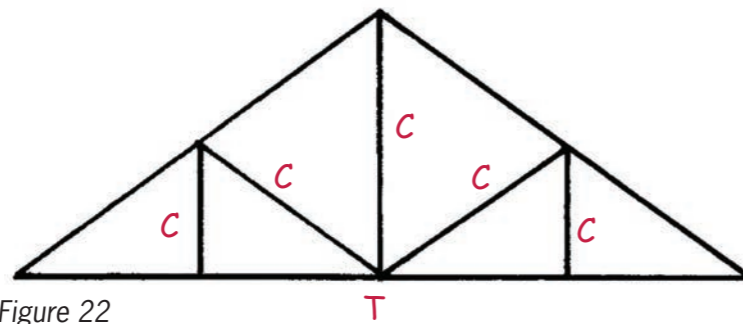

Figure 22
4. Make a copy of the diagram in Figure 22. Label members under compression with a "C" and members under tension with a "T". Do this for all the members except for the rafters.